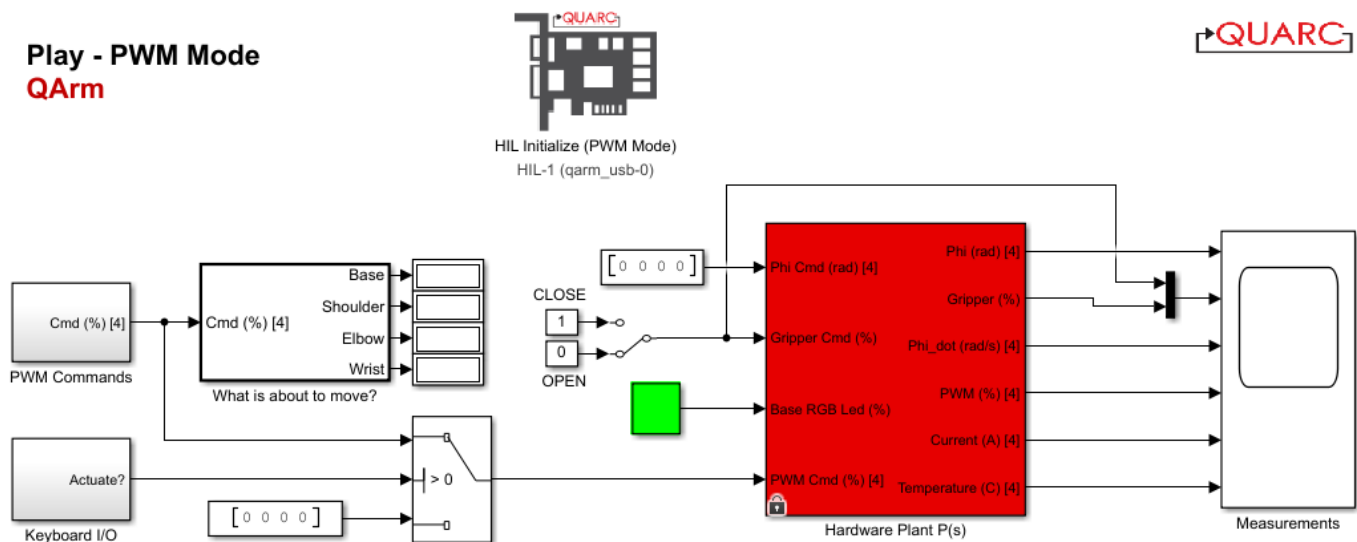

Figure 3: Simulink model that controls the QArm in PWM mode
1. Open the Simulink model play\\_pwm\\_mode.slx (Figure 3). You will use this model to experience the PWM signal being sent to each joint.